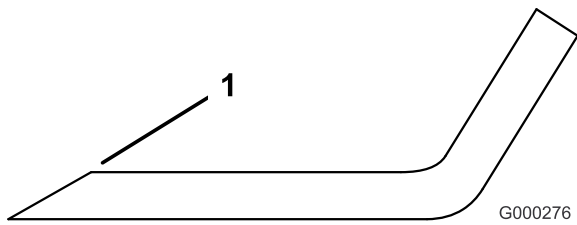

Figure 98
3. Examine the cutting edges of all of the blades. Sharpen the cutting edges if they are dull or nicked. Sharpen only the top of the cutting edge and maintain the original cutting angle to make sure of sharpness (Figure 98). The blade will remain balanced if the same amount of metal is removed from both cutting edges.